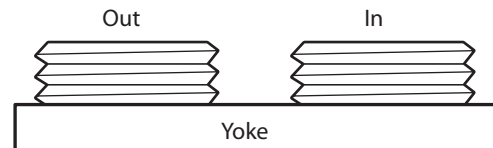

Figure 4
Make certain the untreated water piping connects to the control valve on the right and the softened water is connected on the left (Figure 4).
7. Connect the inlet and outlet piping. The valve back plate threads are 3/4" BSPT. Be sure you have the incoming water connected to the right side (Figure 4).